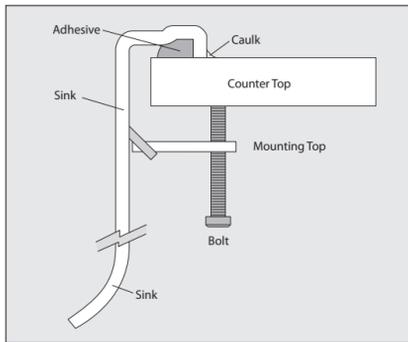

FIGURE 3. Attach sink to countertop as shown.
- + Attach the sink to the countertop with the bolts and clips provided (see fig. 3). Hand tighten bolts with 3 rotations only.
- + To finish the job, fill any variances between the counter and the sink by sealing with a good grade of color matched or clear silicone caulk/adhesive (see fig. 3). Applying caulk between the sink apron and cabinet is optional but not necessary.